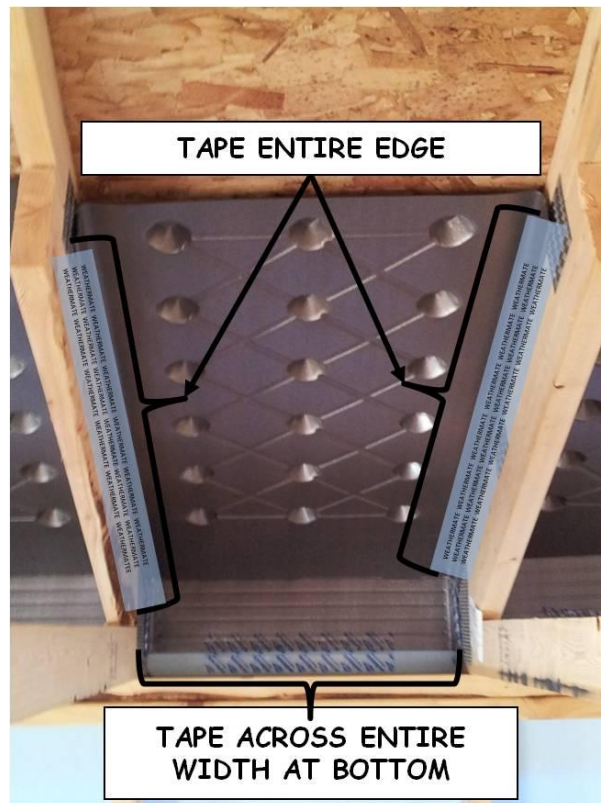

Figure 10-3. Proper Vent Installation.
3. Staple (three per side) the sides of the vent to the trusses and tape the entire width of the bottom of the flap to the foamboard and the entire length of the two sides to the trusses using air sealing tape, as shown in Figure 10-3.